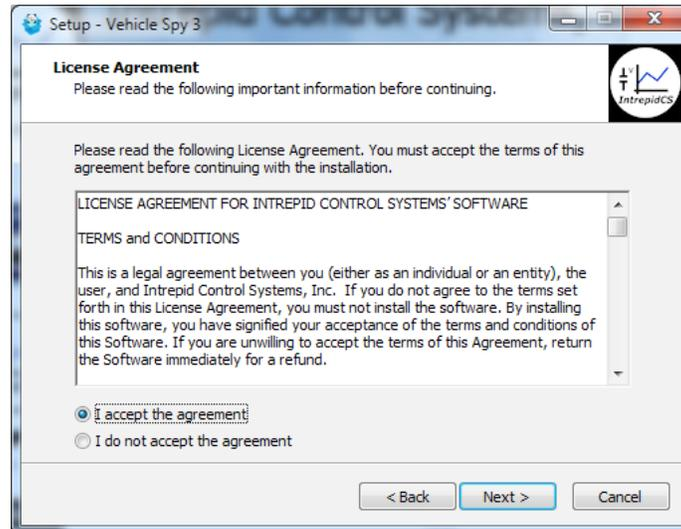

Figure 12: Vehicle Spy 3 License Agreement.
5. **Review and Accept License Agreement:** Review the license agreement, and assuming its terms are acceptable, select *I accept the agreement*, then click (Figure 12).